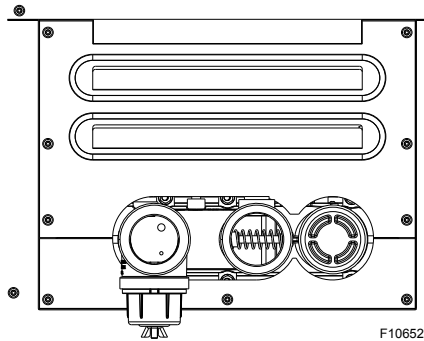

Figure 27. Access Panels
1. Remove right and left side access panels. See **Figure 27**.